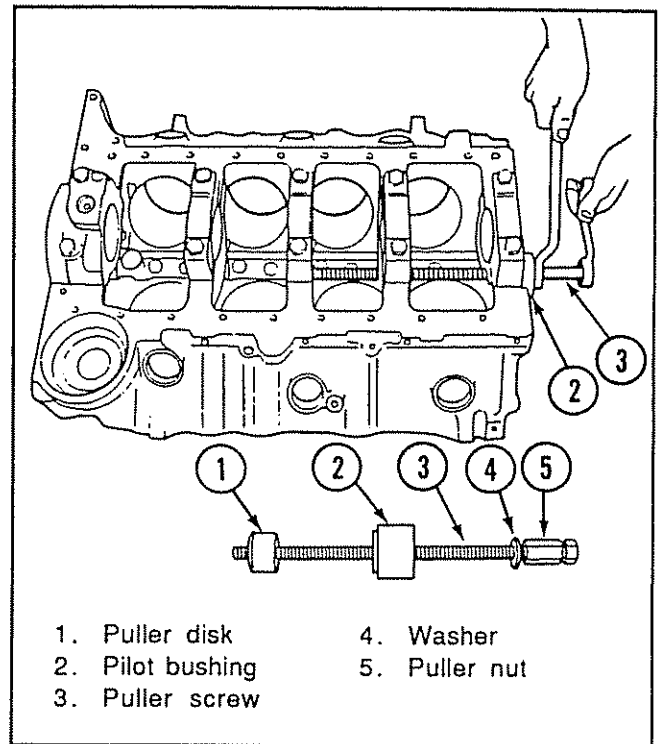

Fig. 8-107 Removing Center Camshaft Bearings
1. Installing intermediate and center bearings (See Figure 8-107 for reference):